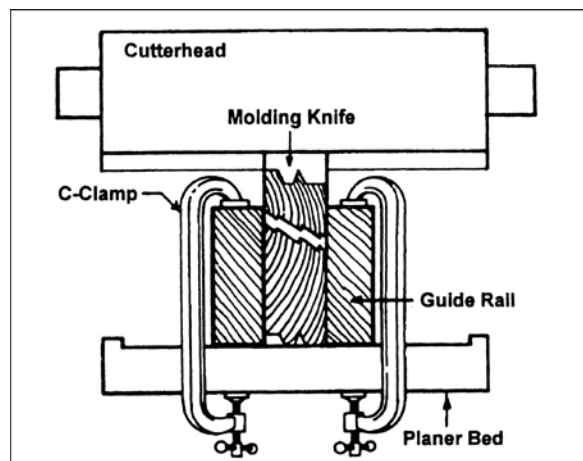

Figure 20
7. Clamp the guide rail to the bedboard using "C" clamps on both ends. (This can also be done by nailing with small gauge finish nails. Keep in mind the guide rails must be positioned properly before nailing. Be careful with nail length; do not nail through the bedboard and into the table). (Fig. 20)